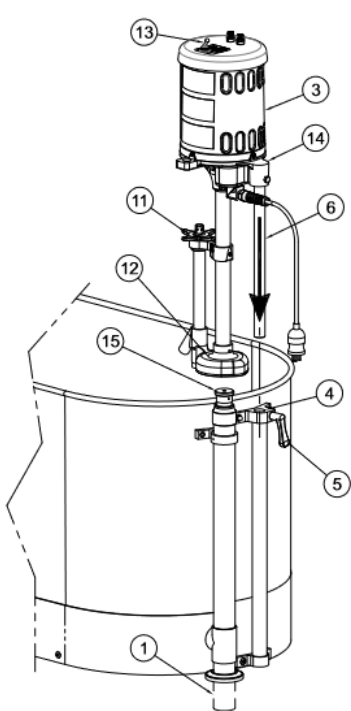
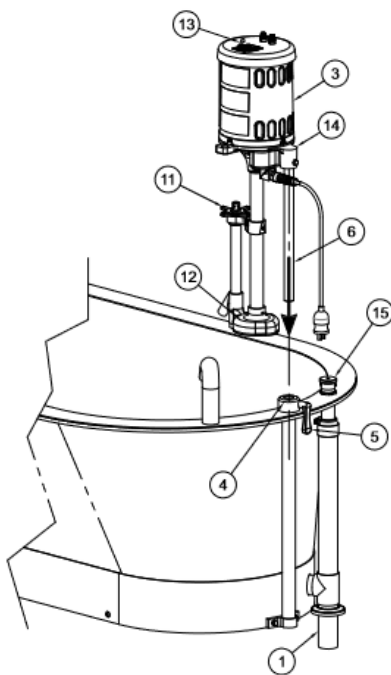

Figure 8: -S model with standard drain and overflow
Figure 9: SB-100-S with standard drain and overflow
- b. Lift discharge nozzle (5) from storage socket (6) and place in sink.
- c. Turn pressure control valve handle (3) fully counterclockwise. This diverts water to the hose (1).
- d. Place and hold discharge nozzle (5) into sink then turn the turbine power switch (4) on to start draining to sink.
- e. When water stops discharging from the nozzle, turn the turbine power switch (4) off.
- f. Drain remaining water using drain valve (2) or by using a dry sponge.
- a. Standard drain and overflow (Figure 8 and Figure 9): Lift combination drain and overflow assembly handle (15).